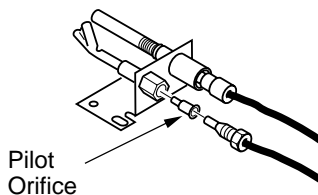

Figure 12 - Installing Propane/LP Pilot Orifice
1. Gently loosen and remove the pilot line connection from the bracket (see Figure 12).
2. Replace the orifice (see Figure 12) with the propane/LP pilot orifice with the red stripe.